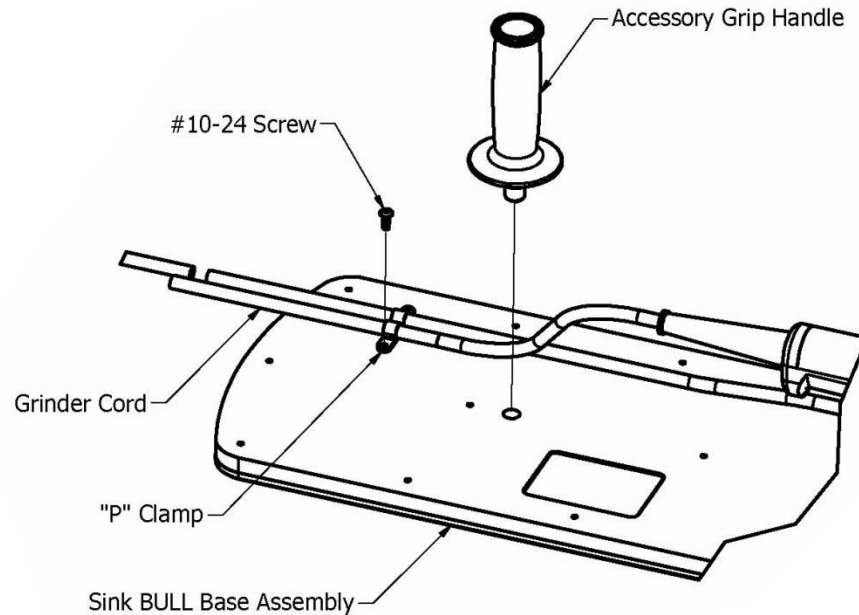

FIGURE 6 - Final Assembly
15. On the Sink BULL™ base assembly, on the opposite end from the height adjustment handle, there is an unused "P" clamp next to the red hose. Using a 1/8" Allen or hex wrench, remove quantity (1) #10-24 screw attaching the "P" clamp. Place the clamp around the grinder cord and reinstall the screw (see Figure 6).
16. Install the accessory grip handle that came with the Makita grinder into the threaded hole provided (see Figure 6).